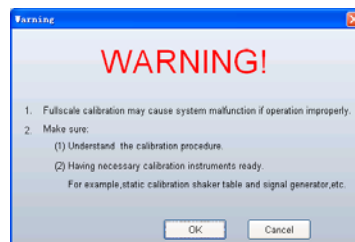
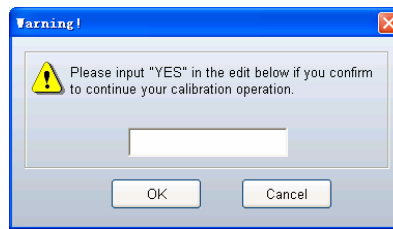
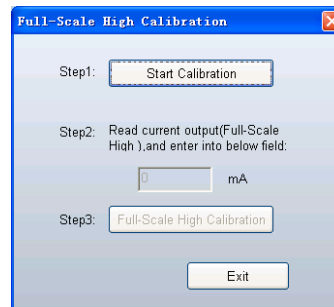

Figure 47
Figure 48
Figure 49
4. Click the button *Full-scale high Calibration*. Click OK button in the WARNING window (figure 47). Enter YES in the Warning dialogue (figure 48) and click OK to open the calibration window (figure 49). Follow the steps showed in the window to implement calibration. First, click the button *Start Calibration* in step1. Then read the output current value from multimeter after it settled down. Enter this value (three significant decimal digits) into the text area in step2. After that, click the button *Full-scale high Calibration* in step3 to download. Wait till the multimeter outputs a right value, click Exit to exit the high calibration.